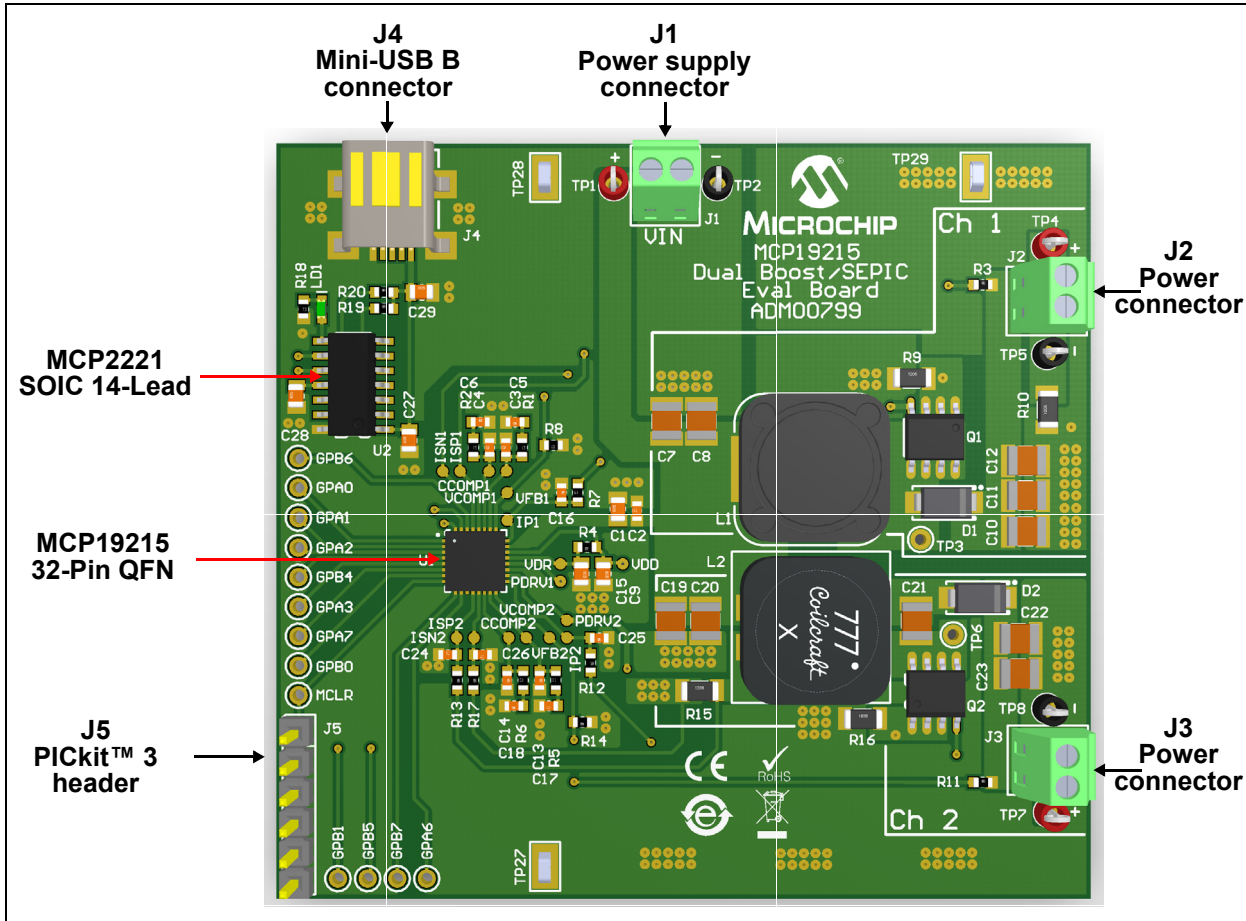

FIGURE 2-1: MCP19215 Dual Boost/SEPIC Evaluation Board – Top View.
Alternatively, users can program the MCP19215 using their own firmware, further tailoring it to the application, using the MPLAB[®] X Integrated Development Environment (IDE) and a PICkit[™] 3 Programmer/Debugger on the J5 Header (see Figure 2-1).
1. connect the electronic load to the J2 and/or J3 connector on the board by observing the polarity; the positive (+) and negative (-) connector pins are marked on the board silkscreen (refer to Figure 2-1).
2. connect the adjustable DC power supply to the J1 connector on the board by matching the polarity to the positive (+) and negative (-) connector pins marked on the board silkscreen (refer to Figure 2-1).
- by the user's own software that can be loaded into the MCP19215 by connecting J5 on the board to a PICKit™3 or another suitable programming tool (see Figure 2-1).